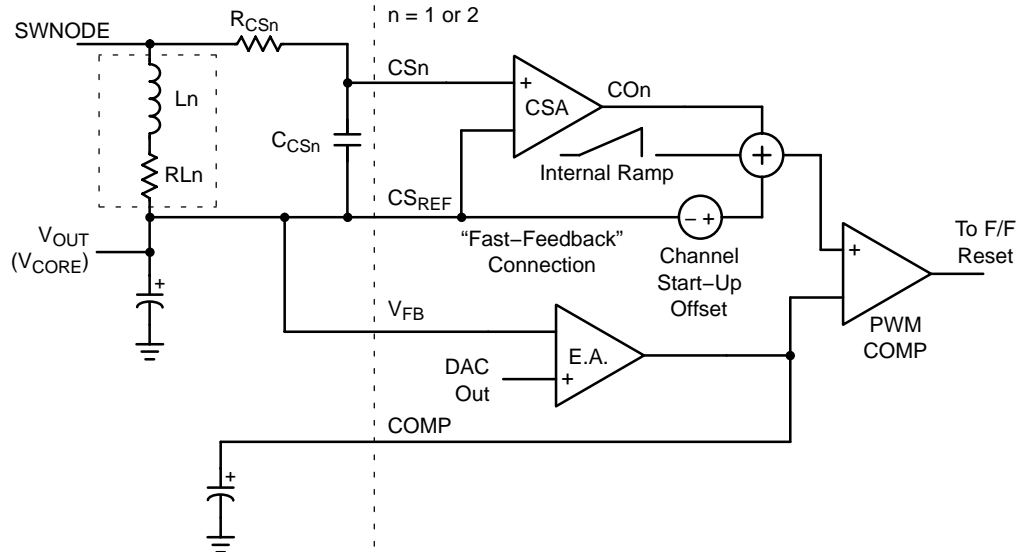

Figure 12. Enhanced V2 Control Employing Lossless Inductive Current Sensing and Internal Ramp
For lossless sensing, current can be sensed across the inductor as shown in Figure 12. In the diagram, L is the output inductance and RL is the inherent inductor resistance. To compensate the current sense signal, the values of RCSn and CCSn are chosen so that L/RL = RCSn • CCSn. If this criteria is met, the current sense signal will be the same shape as the inductor current and the voltage signal at CSn will represent the instantaneous value of inductor current. Also, the circuit can be analyzed as if a sense resistor of value RL was used as a sense resistor (RS).